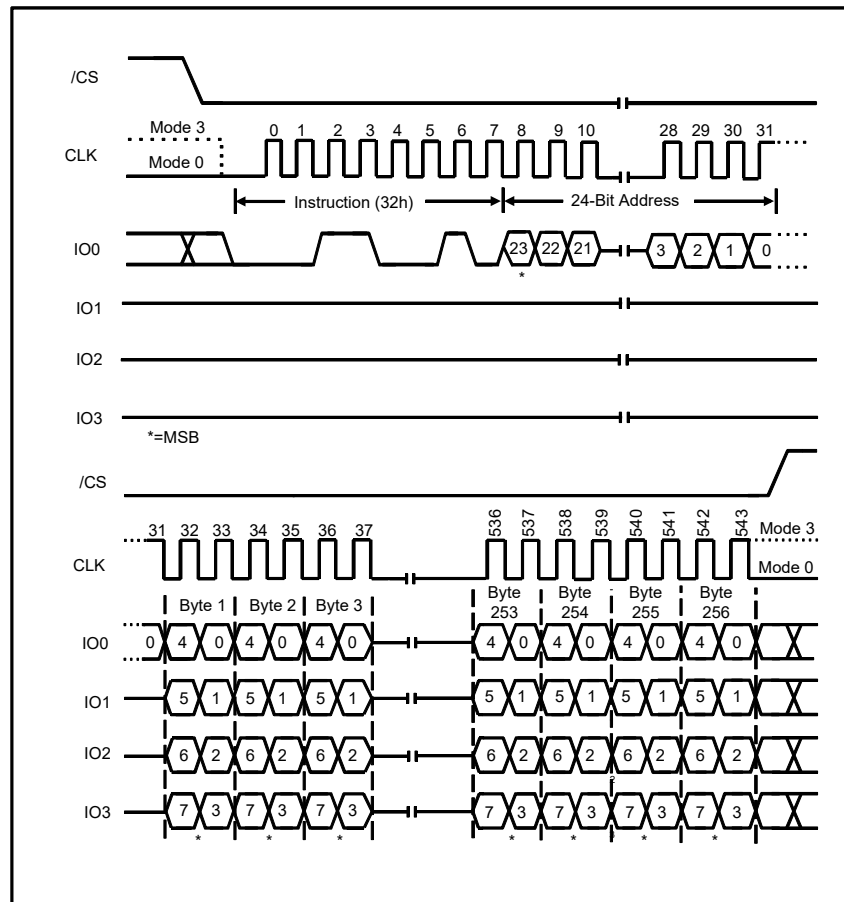

Figure 30. Quad Input Page Program Instruction (SPI Mode only)
To use Quad Input Page Program the Quad Enable (QE) bit in Status Register-2 must be set to 1. A Write Enable instruction must be executed before the device will accept the Quad Input Page Program instruction (Status Register-1, WEL=1). The instruction is initiated by driving the /CS pin low then shifting the instruction code "32h" followed by a 24/32-bit address (A23/A31-A0) and at least one data byte, into the IO pins. The /CS pin must be held low for the entire length of the instruction while data is being sent to the device. All other functions of Quad Input Page Program are identical to standard Page Program. The Quad Input Page Program instruction sequence is shown in Figure 30.